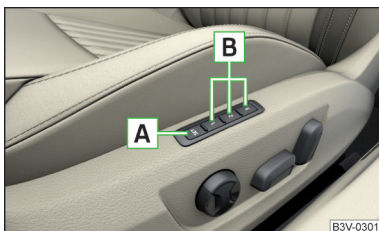

Fig. 90
Among the memory buttons **B** on the driver's seat, a setting for the driver's seat and exterior mirror position can be saved » Fig. 90.
- › Press the SET **A** » Fig. 90 button and then, within 10 seconds, press the desired memory button **B**. Storing is confirmed by an acoustic signal.
- › Turn on the ignition and press the desired memory button **B** » Fig. 90.